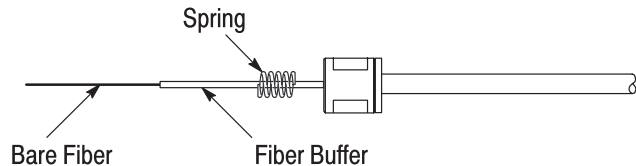

Figure 5
6. Using the micrometer or caliper, measure the crimp sleeve across the flats of the hex crimp to make sure that it conforms to the crimp height and crimp width shown in Figure 5, Detail A. If necessary, crimp again, and re-measure the crimp.
7. At the back of the crimp support, apply the instant adhesive around the circumference of the crimp support at the junction of the cable and the crimp sleeve, apply the adhesive over the opening of the crimp sleeve to encapsulate the strength members. See Figure 5, Detail B. Remove any excess adhesive.
8. Mark the fiber at the dimension shown in Figure 5, Detail C, and using the fiber stripping tool, strip the buffer to the mark, exposing the bare fiber. Using a lint-free tissue or cloth dampened with the isopropyl alcohol or acetone, clean the bare fiber.
9. Slide the spring onto the fiber. See Figure 5, Detail D.